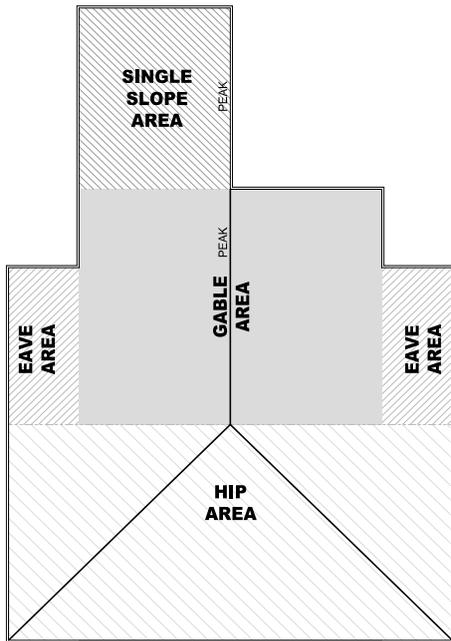
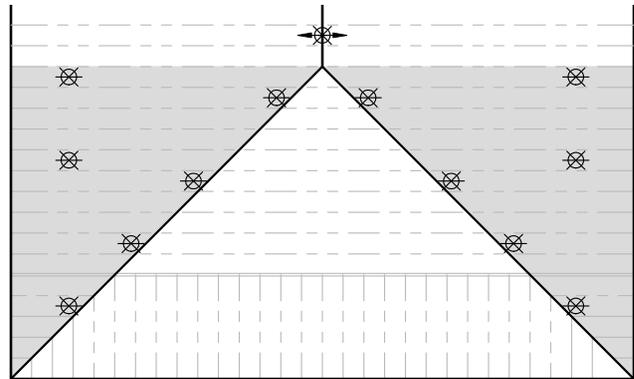

FIGURE 1: AREA IDENTIFICATION FOR SPRINKLER SELECTION
FIGURE 6: ADJACENT HIP PROTECTION OPTIONS
- Identify each space in your attic as a Gable area, a Hip area or a Single Slope area. Refer to Figure 1 and Figure 3 through Figure 6 to choose the appropriate use of sprinklers for your application.